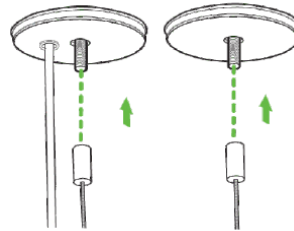

Fig. 9
3. Place canopies in proper position and tighten the aircraft cable couplings. (Fig. 9)
5. Place canopies in proper position and tighten the aircraft cable. (Fig. 9)